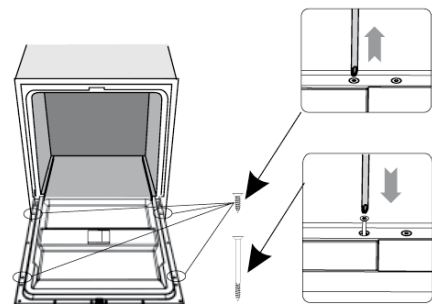

Figure 17
- 3) Fix the decoration door onto the outer door by screws and bolts, see the figure 17.